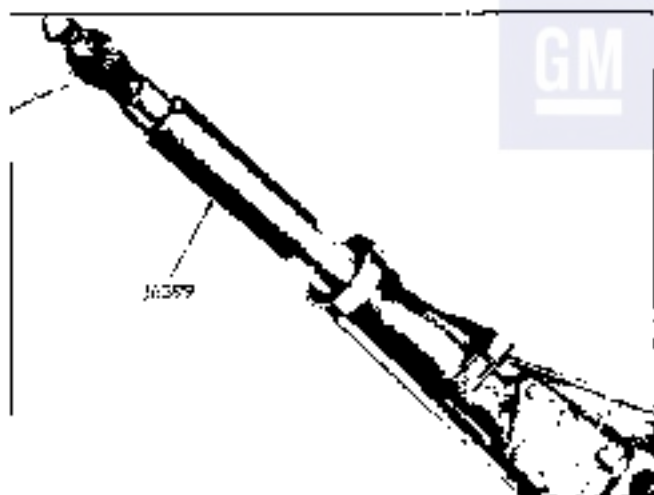

Fig. 7D-18 Removing or Installing Extension Case Bushing
1. Remove oil seal with punch or other suitable tool and discard seal (Fig. 7D-4).
2. Using tool J 6399, drive bushing forward into case extension (Fig. 7D-18).
4. Coat I.D. of bushing with transmission oil, new seal with sealing compound and start straight into bore of case extension. Using installer J 5154-A, tap seal into extension case (Fig. 7D-5).